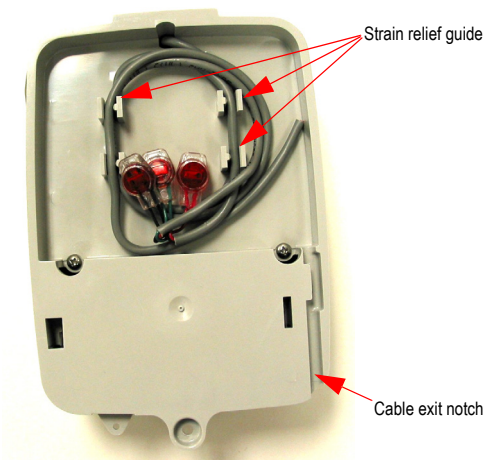

Figure 18 Cable in Back of Mounting Adapter
- 6 For rear cable entry, store excess wire and Scotchloks in the hollow cavity in the back of the MIU using the strain relief guides as shown in Figure 18.